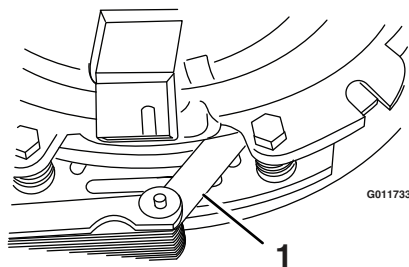

**Figure 35**
- A. Loosen both brake mounting bolts one-half to one full turn (see Figure 35).